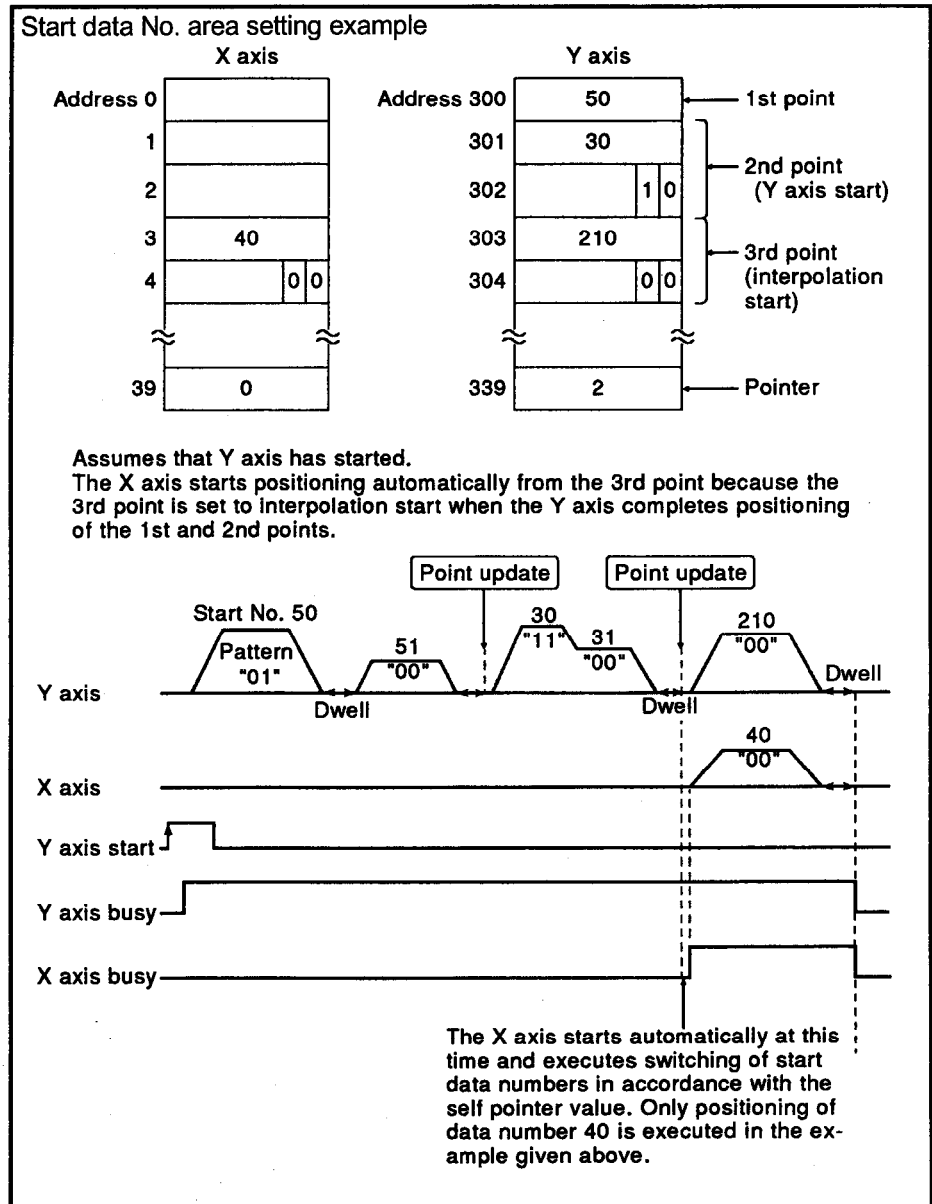

Fig. 3.34 Start Data Example 3
- 3) When the start axis is set to interpolation start (00) or both-axes start (11) and the other axis is not set to BUSY, the other axis starts positioning automatically using the start data number set at the point that is the same as its own axis (refer to Fig. 3.34).